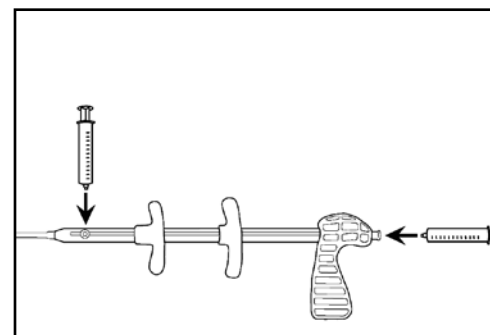

Figure 6. Flush the delivery system with saline solution through the 2 Luer ports.
- 3.4.1 To flush the guidewire lumen, attach a 10cc syringe filled with sterile saline to the Luer port on the back of the delivery system handle (Figure 6).
- 3.4.3 To flush the space between the inner catheter and outer sheath of the delivery catheter, attach a 10cc syringe filled with sterile saline to the Luer port on the handle shaft (Figure 6).